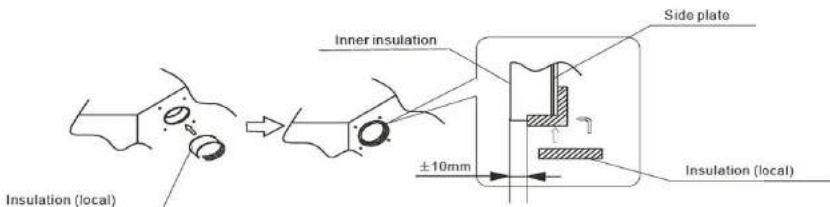

fig. 5
- Put the insulation tightly around the hole of the unit as shown. The ends of the side plate and the inner insulation must be completely adhered without leaving any clearance along the circumference of the hole. Make sure the inner surface of insulation tightly contacts the inner insulation edge and the side plate. (refer to fig.5)